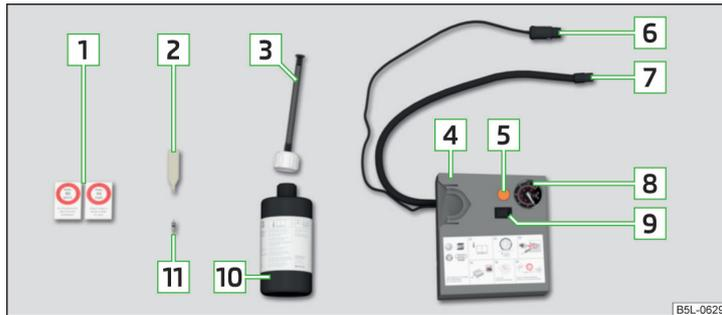

Fig. 326 Description of puncture repair kit
- Insert the valve remover  » Fig. 326 on page 290 on the valve insert, so that the valve insert fits into the slot of the valve remover.
- Screw the air compressor tyre inflation hose  » Fig. 326 on page 290 firmly onto the tyre valve.